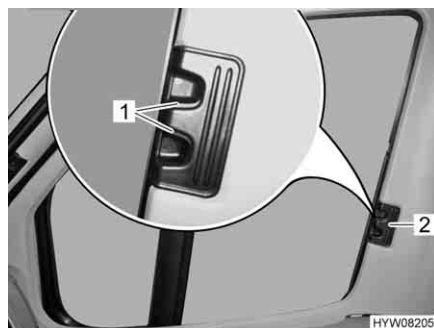

Fig. 75 Roman shade for driver's and passenger's window
- Press the release handles (Fig. 75,1) and hold them down.
- Using the handle (Fig. 75,2), draw the Roman shades for the driver's and passenger's window to the other side of the window and secure them to the magnetic strips.
- Use handle (Fig. 75,2) to push in the Roman shades for the driver's and passenger's window as far as possible.
- Let go of the release handles (Fig. 75,1) and let them engage.